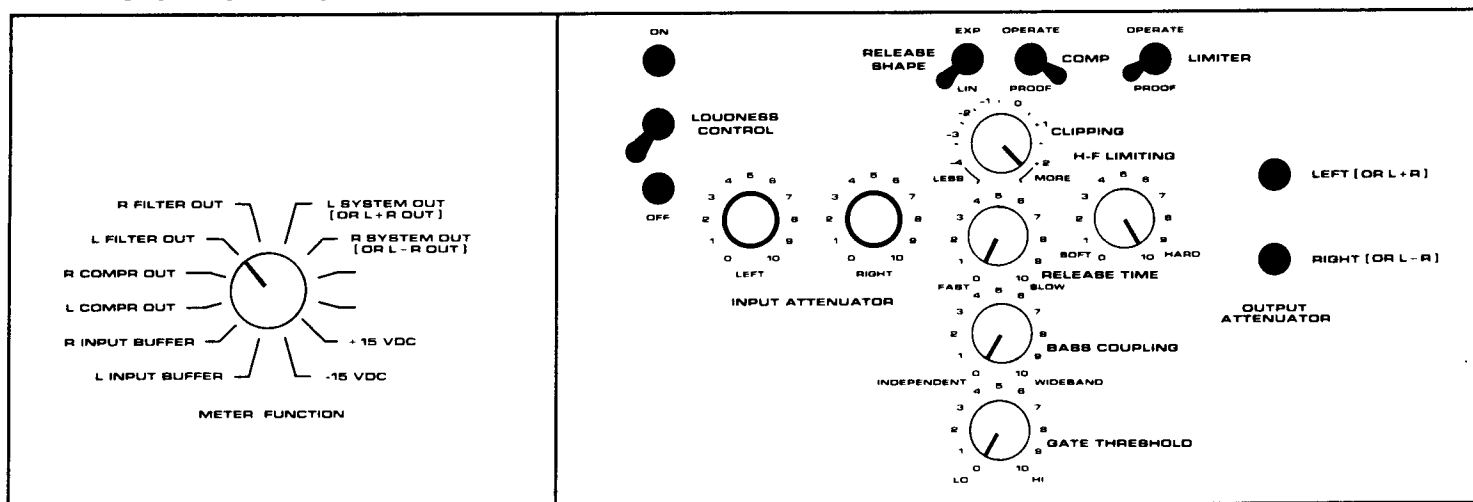

Fig. 2-7: Control Settings for Step 12
- A ☐ Set controls as shown in Fig. 2-7. If you are using the 8182A Audio Processor, set its controls as shown in Fig. 2-7.
- A ☐ Verify that the controls are set as shown in Fig. 2-7.